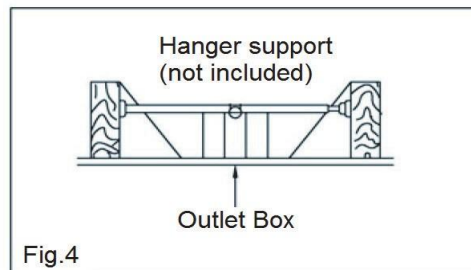

Fig.4
- 4.To hang the fan in locations where no ceiling joists is available. A hanger support bar may be required (Fig. 4)